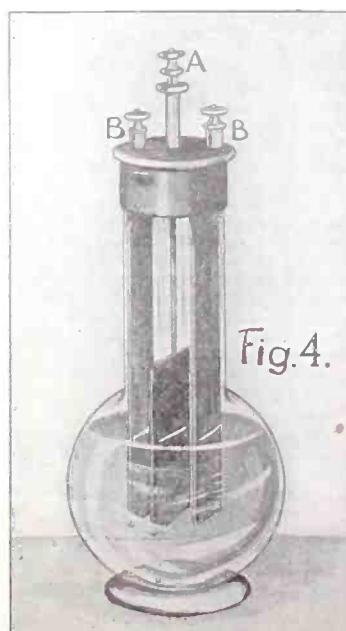

Fig. 4.
14. The Grenet battery is one in which a solution of bichromate is used as the depolarizer and active solution. The zinc plate A is the positive plate and is used in plunger fashion. That is, it is plunged into and then taken out of the solution. The carbon plates B are negative. This type of battery is shown in Fig. 4.